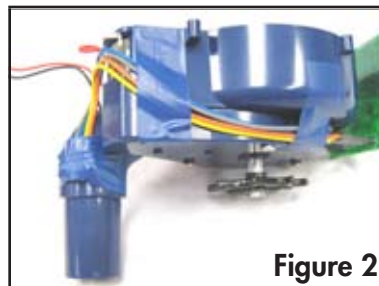

Figure 2
9) (Figure 2) Clean the sensors with a dry cloth if necessary. Insert the sensors into the holes in the feed tube, with the orange/yellow wired sensor in the hole on the right, the blue/grey wired sensor going in the hole on the left. Wrap electrical tape neatly 2 times around the feed tube over the sensors to prevent sunlight from interfering with the sensors.